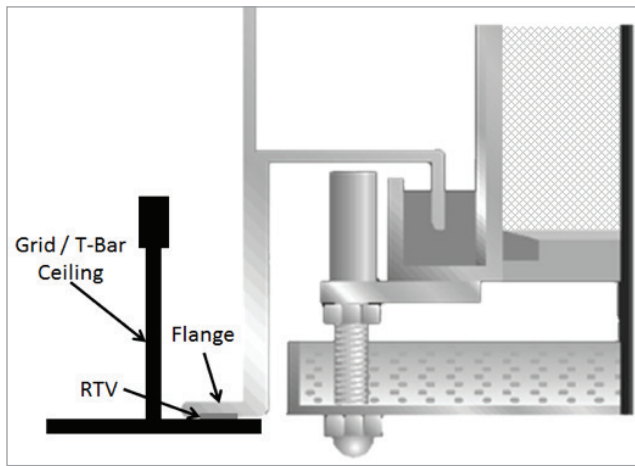

Fig. 07: Flange Mount for Grid / T-Bar Ceiling
3. Center and lower the AstroHood unit into the opening and seat the unit onto the grid/T-bar. Apply uniform pressure to ensure the flange is bonded to the grid/T-bar (see Fig. 07).